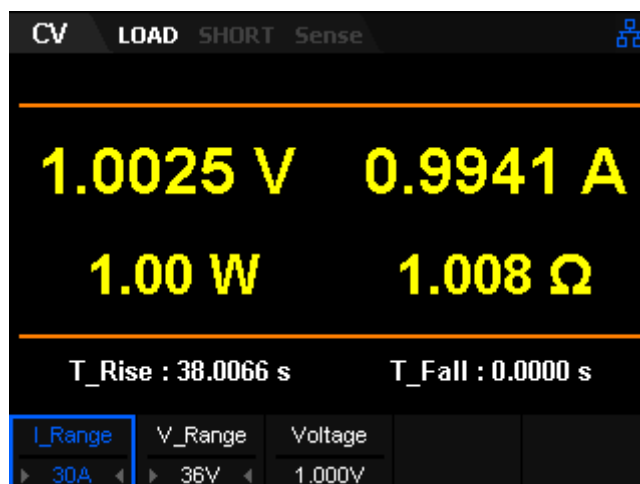

Figure 2-6 CV Mode Main Interface
2. Press **[CV]** to enter the main interface of CV mode, as shown in Figure 2-6.